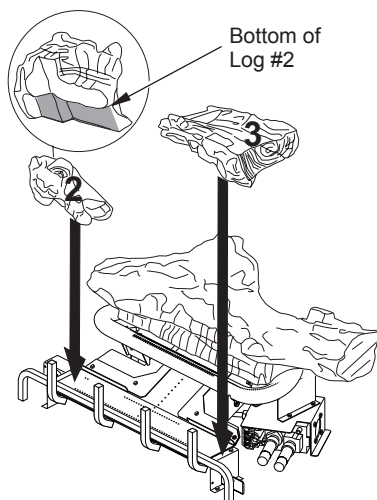

Figure 31 - Installing Logs #2 and #3
2. Place left bottom log (#2) onto base assembly as shown in Figure 31. See detail in drawing for contour on bottom of log. Log will fit over metal brackets and flat onto base assembly
3. Place right bottom log (#3) onto pan burner as shown in Figure 31.